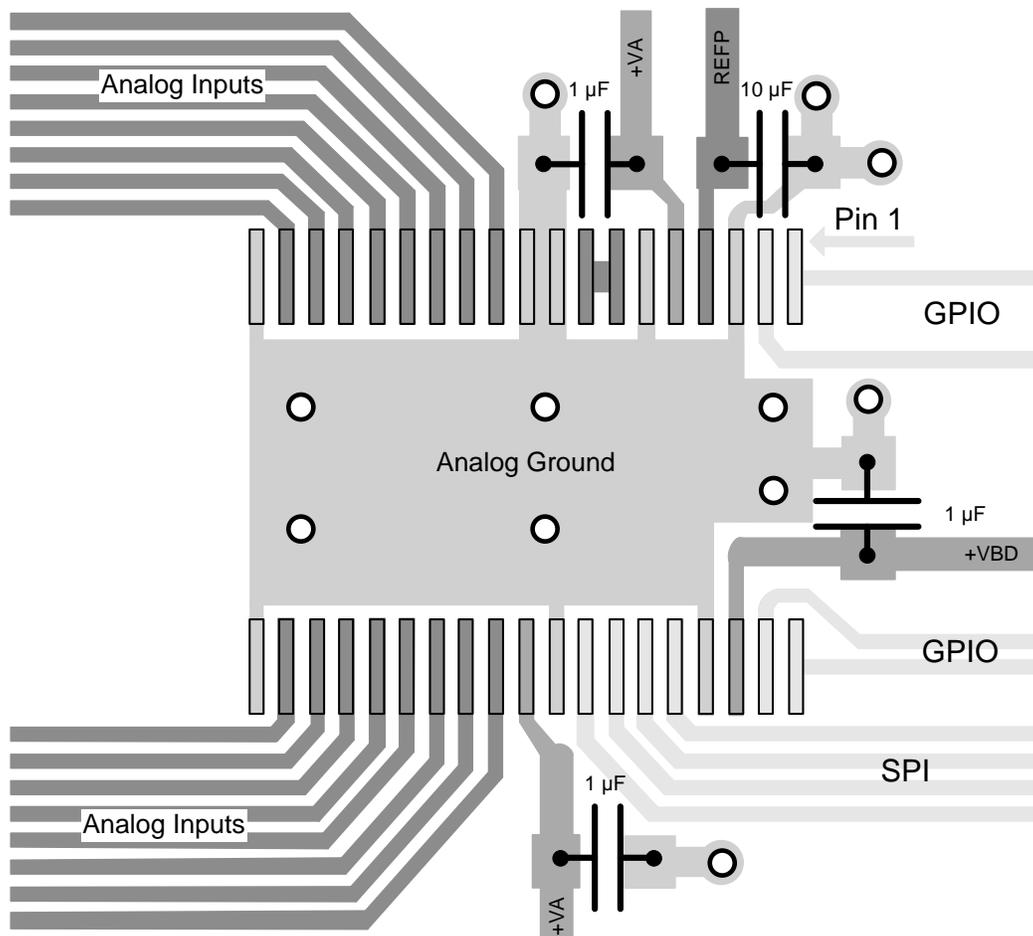

Figure 64. Layout Example
- The power sources must be clean and properly decoupled by placing a capacitor close to each of the three supply pins, as shown in Figure 64. To minimize ground inductance, ensure that each capacitor ground pin is connected to a grounding via by a very short and thick trace.
- The REFP pin requires a 10- μF ceramic capacitor to meet performance specifications. Place the capacitor directly next to the device. This capacitor ground pin must be routed to the REFM pin by a very short trace, as shown in Figure 64.
The full-power bandwidth of the converter makes the ADC sensitive to high frequencies in digital lines. Organize components in the PCB by keeping digital lines apart from the analog signal paths. This design configuration is critical to minimize crosstalk. For example, in Figure 64, input drivers are expected to be on the left of the converter and the microcontroller on the right.